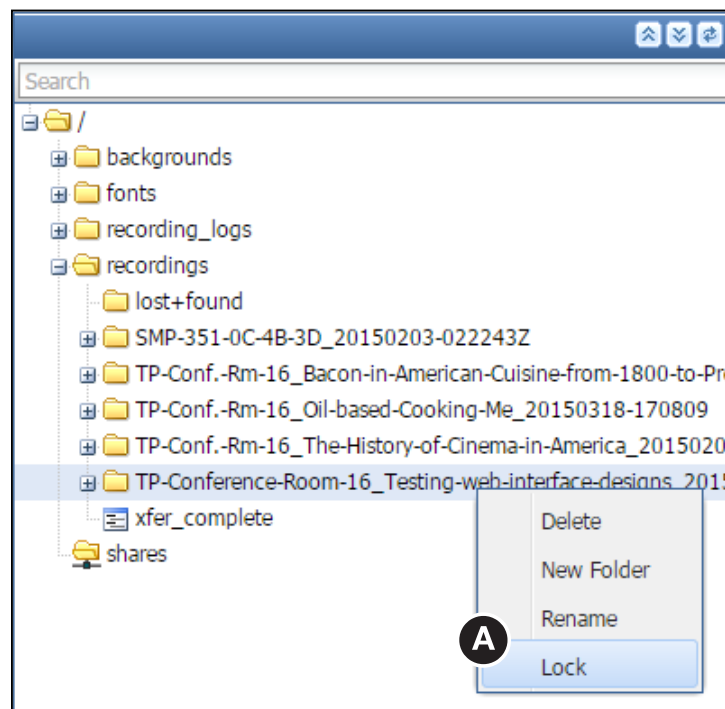

Figure 81. File Directory Panel
3. Right-click the folder for the desired recording and select **Lock** from the pop-up list (see figure 81, **A**).